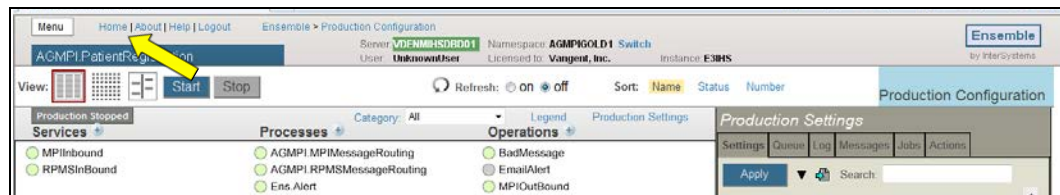

Figure 3-2: Home link
- After navigating to another page using a menu item, the navigation links shown in Figure 3-2 provide a reference to the page's location within the portal.
The **Home** link (Figure 3-2) navigates to the **Management Portal** home page.